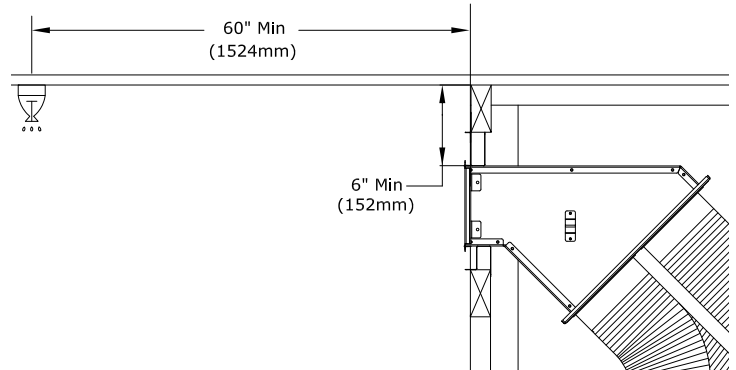

Figure 4.4 - Clearance to Sprinkler
- Figure 4.4 shows a side KZK whereas your installation may look different.